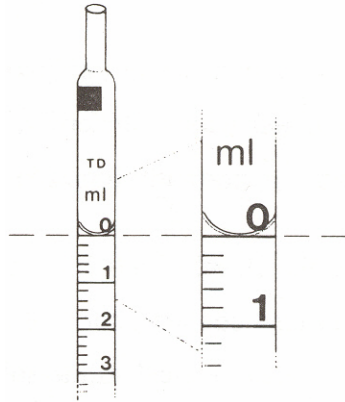

Figure 15.2. Reading a pipet.
2. Drain the pipet until the bottom of the meniscus is at the “0” mark (see Figure 15.2).